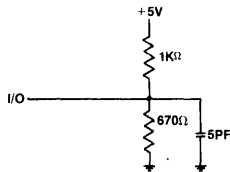

Figure 2 - Transition Load
6. Transition is measured ± 200mV from steady state voltage with specified loading in Figure 2.